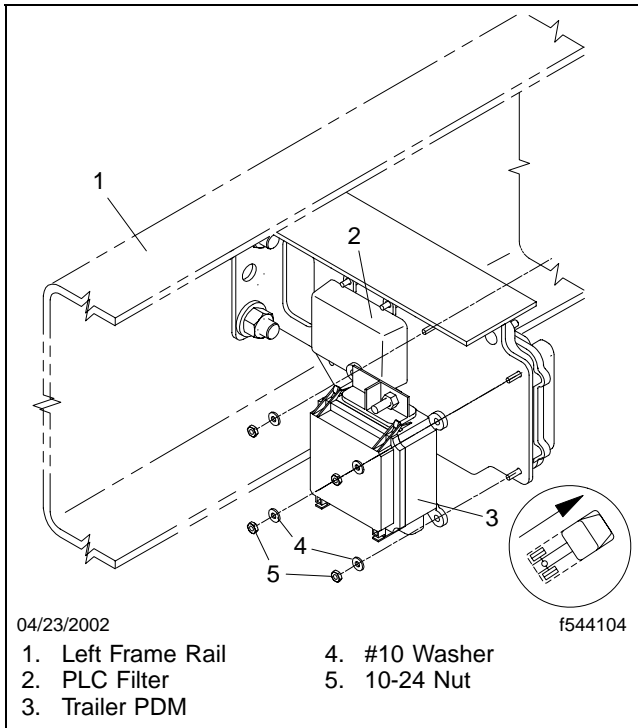
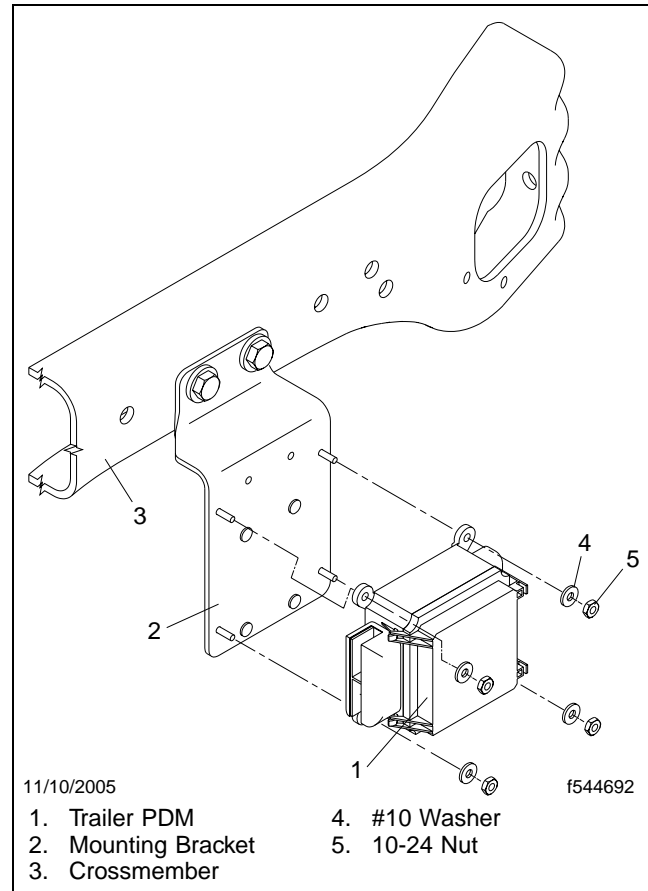

Fig. 2, Trailer PDM Aft-of-Cab Installation
Fig. 3, Trailer PDM End-of-Frame Installation
6. Remove the nuts and washers that attach the trailer PDM to the mounting bracket, then remove the PDM. See **Fig. 2** and **Fig. 3**.